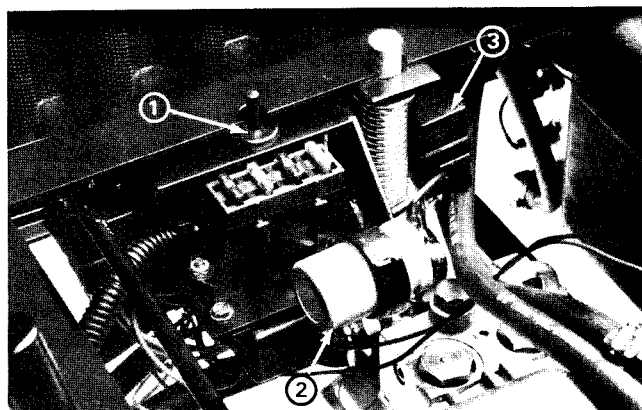

Figure 10a
The seat switch (Fig. 10a) is a normally open (NO) switch. With no operator on the seat there is an open circuit to the time delay (capacitor) and relay coil. If the PTO switch or traction switch is open with no operator on the seat the engine will stop after a delay of approximately 2 seconds.